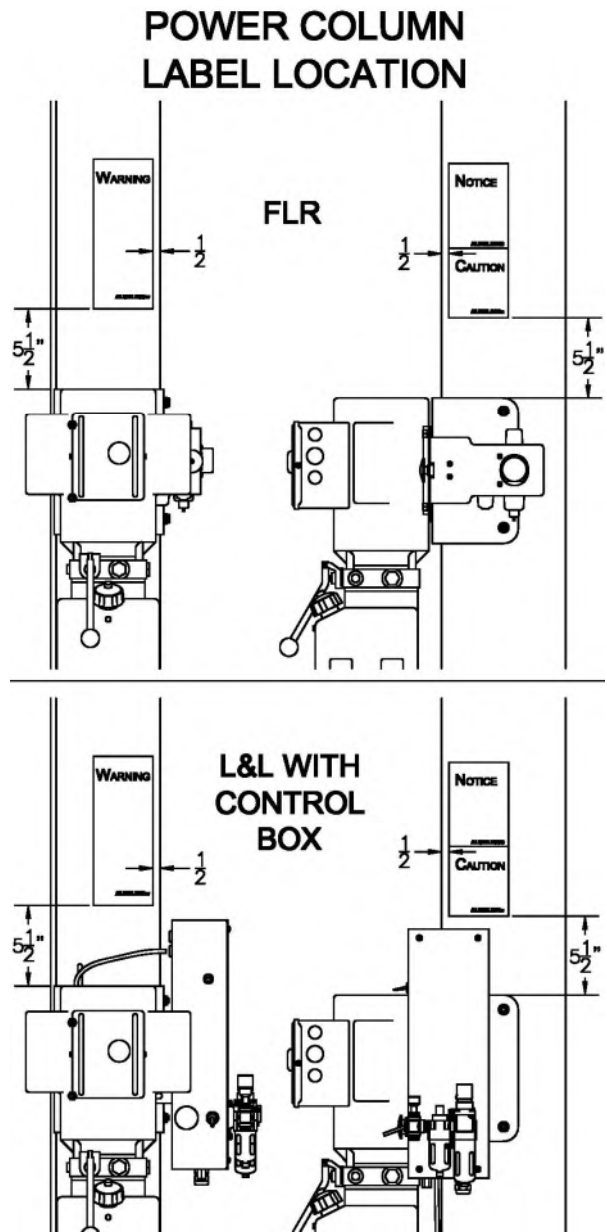

Fig 44 – Warning & Caution Decal
- 99) Place the Warning Decal, Notice Decal, and Caution Decal as shown in Fig 44.